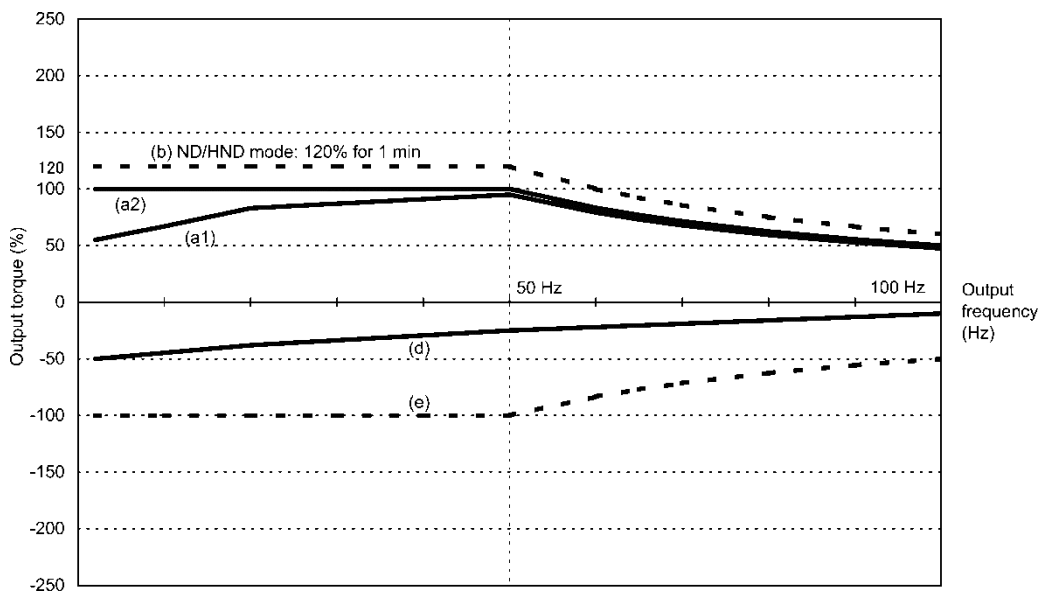
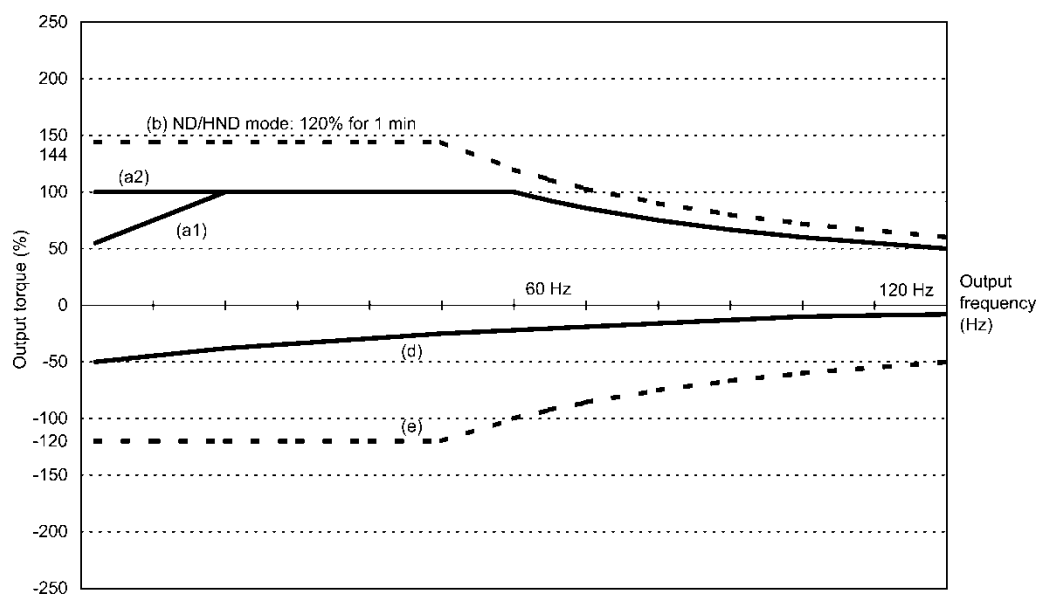

Figure 10.1-1 Output Torque Characteristics (Base frequency: 50 Hz)
Figure 10.1-2 Output Torque Characteristics (Base frequency: 60 Hz)
Figure 10.1-1 and Figure 10.1-2 graph the output torque characteristics of motors versus the output frequency for 50 Hz and 60 Hz base frequencies. The horizontal and vertical axes show the output frequency and output torque (%), respectively. Curves (a) through (f) depend on the running conditions.
**(1) Continuous allowable driving torque**
## ① Standard motor (Curve (a1) in Figure 10.1-1 and Figure 10.1-2)
## ② Motor exclusively designed for vector control (Curve (a2) in Figure 10.1-1 and Figure 10.1-2)
**(2) Maximum driving torque in a short time** (Curves (b) in Figure 10.1-1 and Figure 10.1-2)
**(3) Starting torque** (around the output frequency 0 Hz in Figure 10.1-1 and Figure 10.1-2)
**(4) Braking torque** (Curves (d) and (e) in Figure 10.1-1 and Figure 10.1-2)